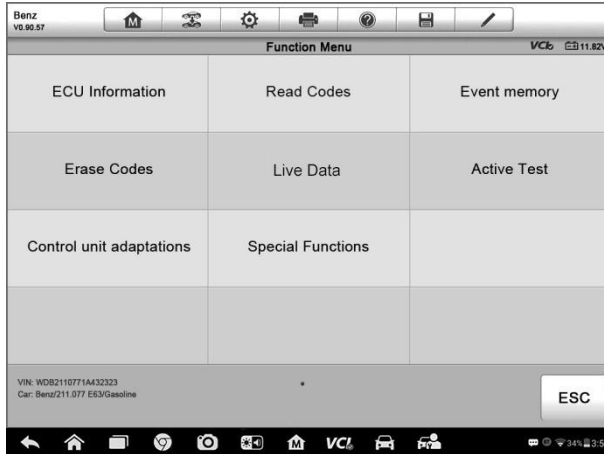

Figure 4-8 Sample Function Menu Screen
- Tab the > button to the right of the system item, on which you want to perform further diagnosis and other test activities. A Function Menu screen (*Figure 4-8*) shall then display.